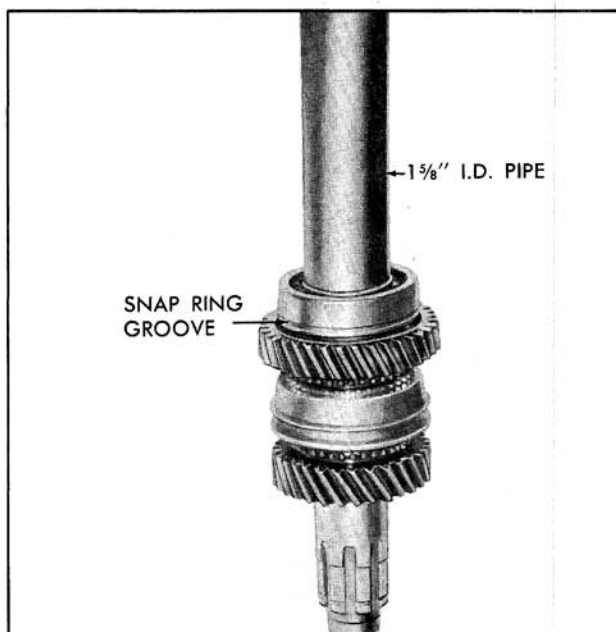

Fig. 7-69 Installing Rear Bearing
4. Using 1-5/8" ID pipe cut to a suitable length, press on the rear bearing with the snap ring groove toward the front of the transmission. (Fig. 7-69) Firmly seat the bearing.